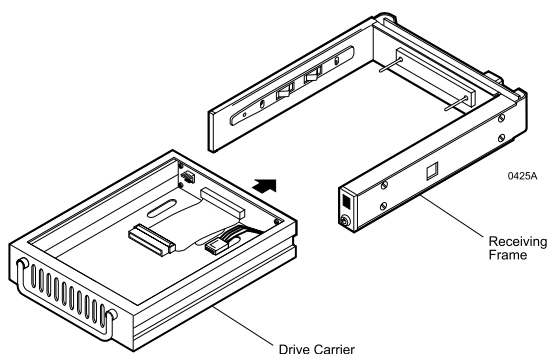

Figure 2: DE100 Receiving Frame and Carrier
The StorCase Technology **Data Express® DE100i-SW** and **DE100i-SWC** are removable drive carriers and receiving frames designed to provide durable and reliable mounting for one (1) 3.5" SCSI drive within a 5.25" half-height peripheral slot (Figure 2).